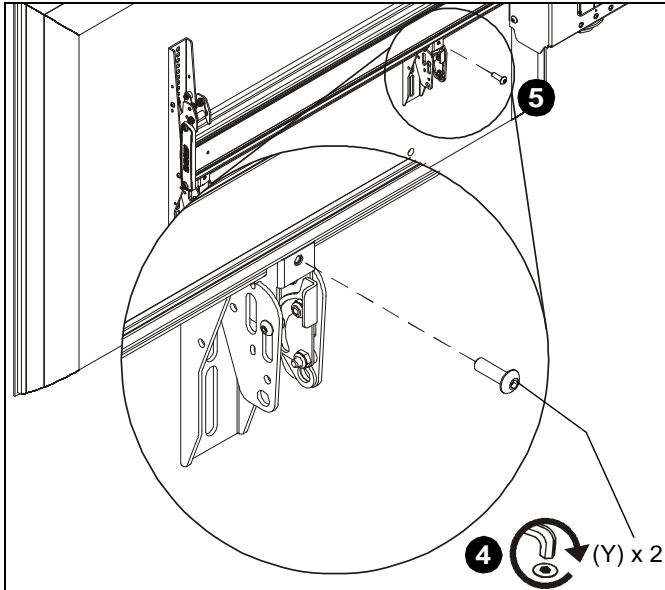

Figure 11
- Fasten bracket against ceiling mount extrusion using one 10-24 x 5/8" button head cap screw (Y). (See Figure 11)